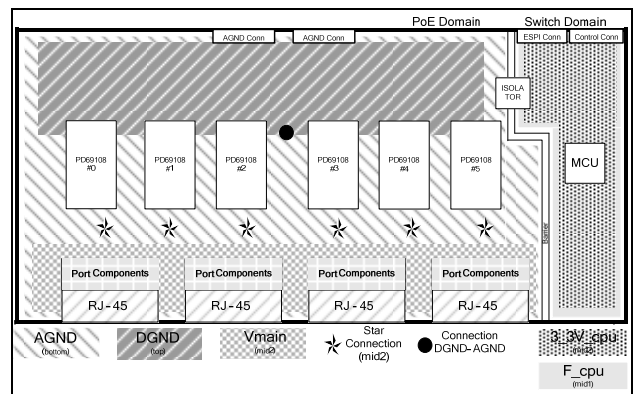

**Figure 8: Component Identification for PD69108 Circuitry**
- The power and return (ground) planes for the 48 V supply must be designed to carry 35 A continuous current, based on full 48-port capacity. Minimize DC power losses on this plane by using a wide copper land. When implementing the PoE circuitry on a daughter board, the hi current does not have to be routed through the daughter board but only the return path as can be note from Figure 8
See Figure 8